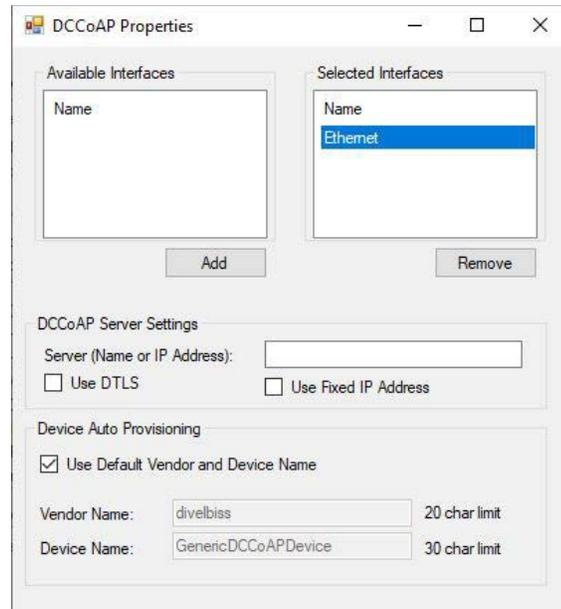

Figure 30-4
- Select (highlight) the communications method in the Available Interfaces pane and click the **ADD** button. The selected method will now be moved from the **Available Interfaces** pane to the **Selected Interfaces** pane. Refer to Figure 30-4.